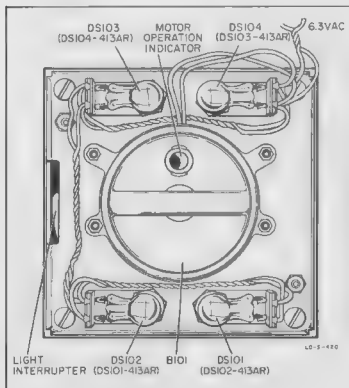

Figure 5-1. A103, Chopper Assembly
5-13. Before the modulator or demodulator can be checked, it must be ascertained that the chopper assembly, A103, is functioning properly. Refer to figure 5-1 for location of parts in the following steps. Proceed as follows:
- c. Remove DS103 (figure 5-1) from chopper assembly A103.